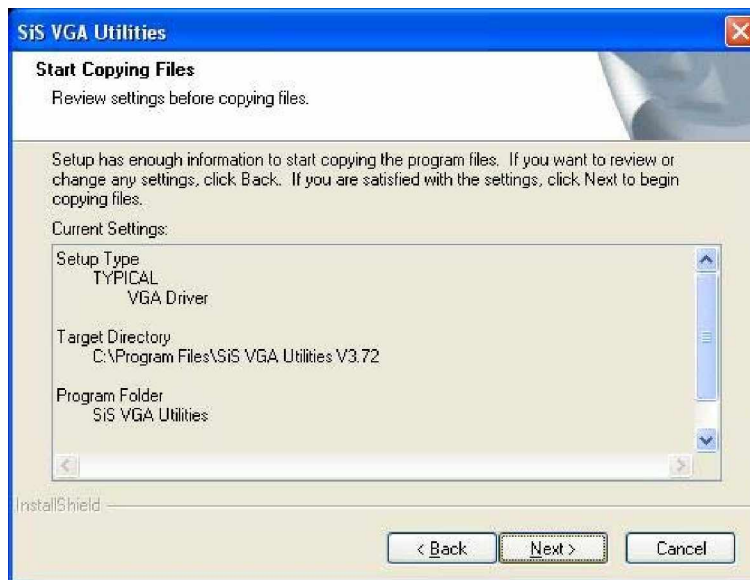

Figure 6-16: Review Settings
Step 5: Before the files are copied, review the selected settings (see **Figure 6-16**). To continue, click the **NEXT** button.